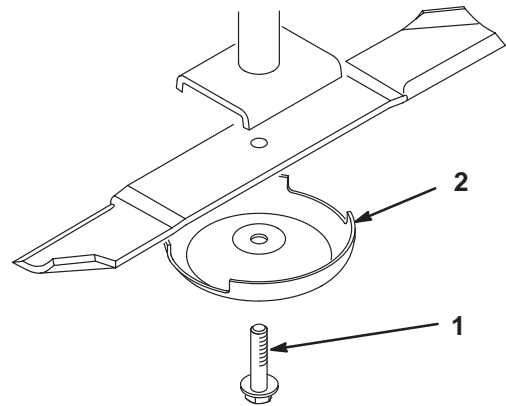

Figure 30
2. Grasp the end of the blade using a rag or thickly padded glove. Remove the blade bolt, anti-scalp cup, and blade from the spindle shaft (Fig. 30).